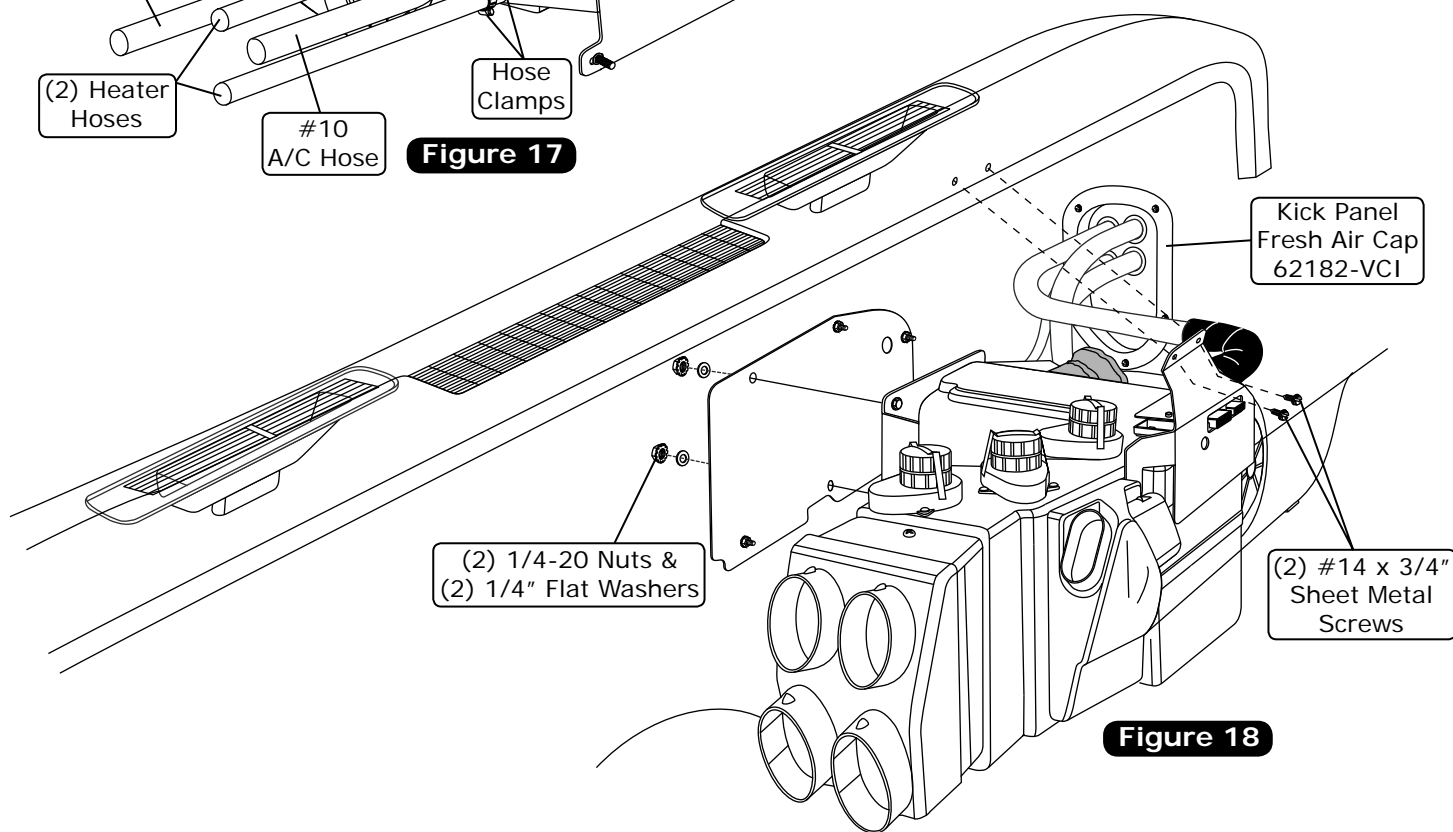

Figure 18
1. Lift the evaporator unit up under the dashboard. Secure loosely to the firewall using (2) 1/4-20 nuts and (2) flat washers (See Figure 18, below). **NOTE:** To ensure proper drainage, it is very important that the **evaporator is level, both left-right and fore-aft. Check for level on the flat portions of the case around the drain.**
2. Using (2) #14 x 3/4" sheet metal screws, secure the front evaporator mounting bracket to the cowl (See Figure 18, below).